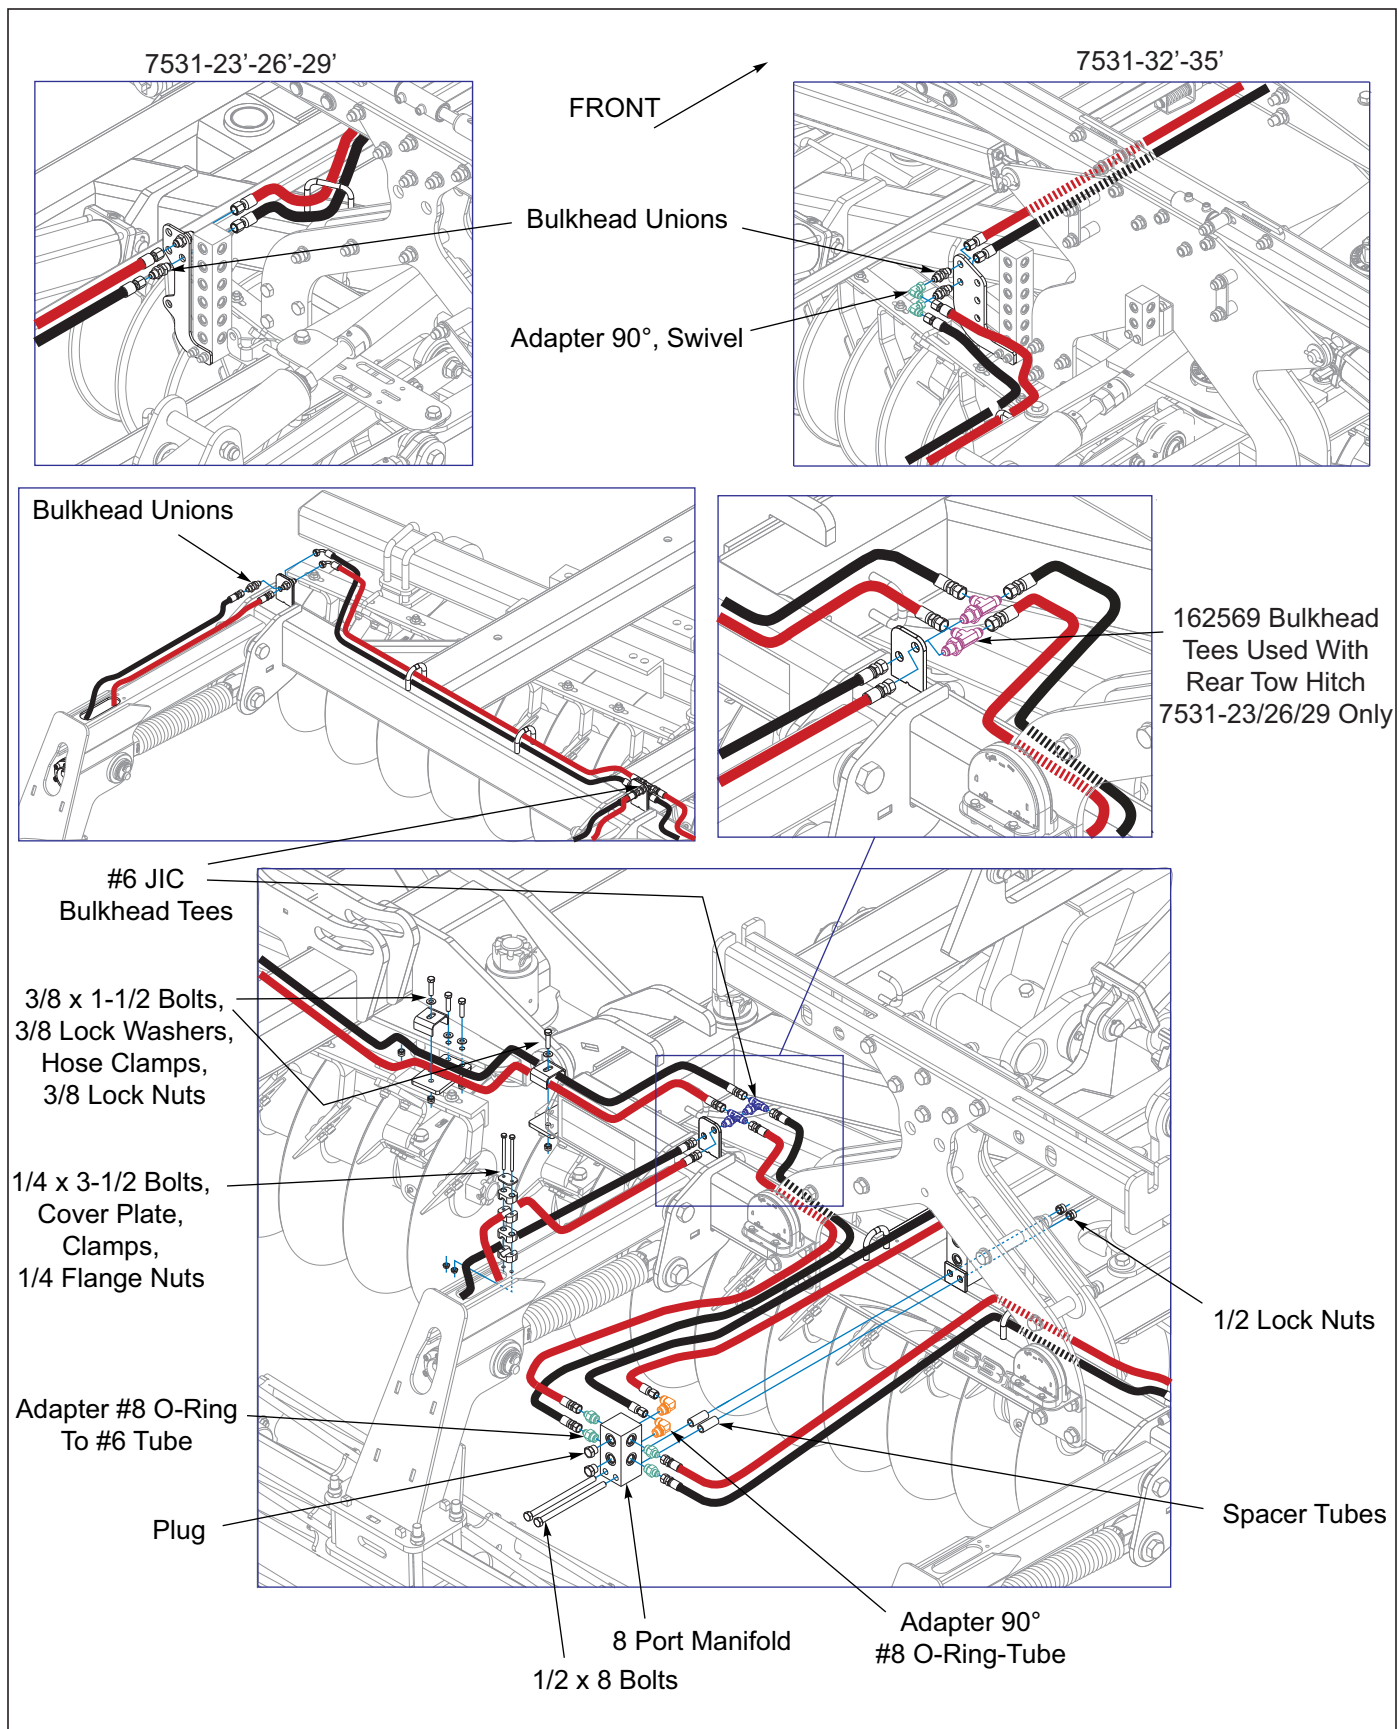

Figure 3-60: Reel Hydraulic Manifold & Hose Clamp Assembly
1. Install the 8 port manifold bulkhead fittings and hose clamps **See Figure 3-60**. Hose clamp mounting plates are positioned near the rear hinge. Holes will be in the frame to locate them.